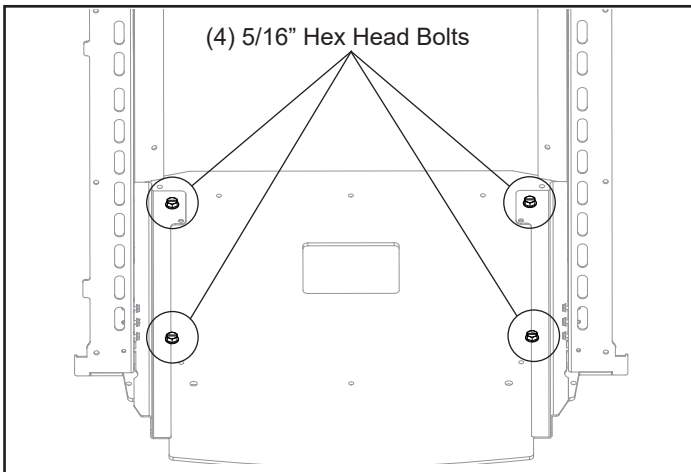

Figure 5.2 - Remove (4) 5/16" Hex Head Bolts
Now that the unit is removed you can remove the mounting frame from the skid. To do this simply remove (4) 5/16" Hex head lag bolts. Figure 5.2.